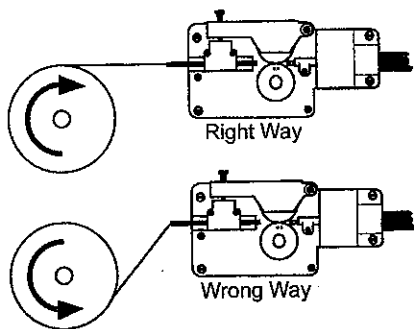

Figure 6. Wire Installation
4. Place the spool on the spindle in such a manner that when the wire comes off the spool, it will look like the top illustration in Figure 6. The welding wire should always come off the top of the spool into the drive mechanism.
Change the polarity of your welder according to the following procedure steps. Figure 6 shows what the polarity block should look like for each polarity setting.